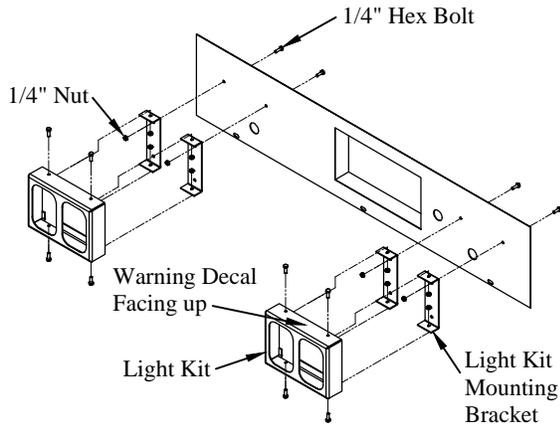

Figure 24: Light kit assembly location.
- Bolt** the light kit to the box cover using the supplied 1/4" bolts and nuts (Figure 24).
- Tighten** all light kit bolts to 9ft-lb (Figure 24).